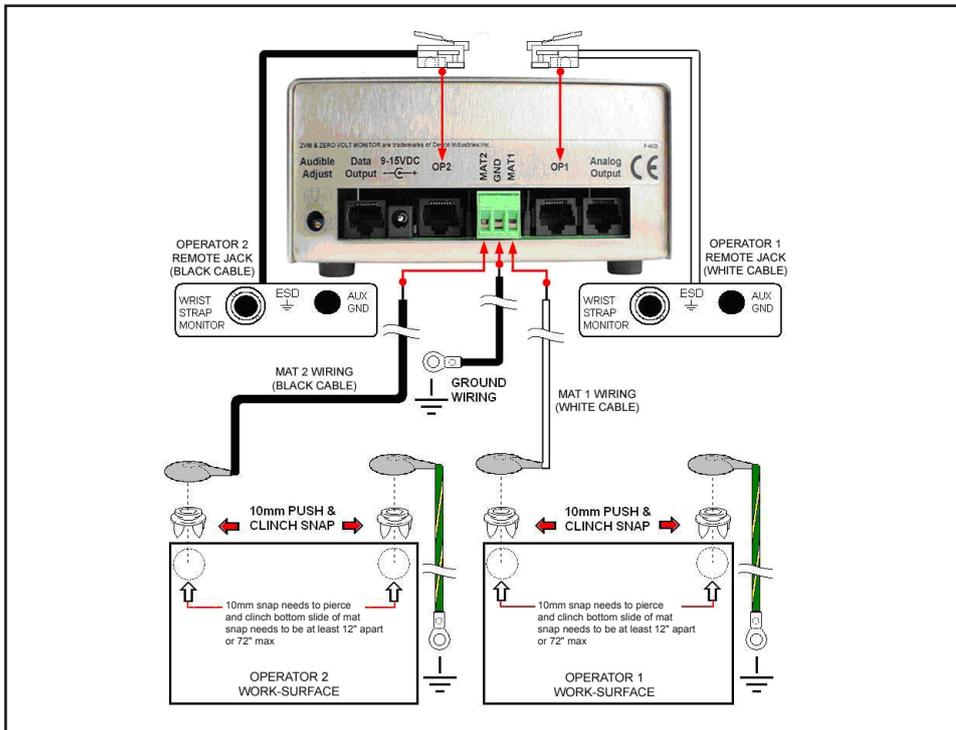

Figure 3. Installing the Zero Volt Monitor™
- VI. Attach the work surface mats to ground using the mat ground cords (See Figure 3). Attach the ring terminal end of the cord to the bench common ground point or other appropriate ground point. Attach the snaps at the opposite ends of the cords to the snaps on the work mat.